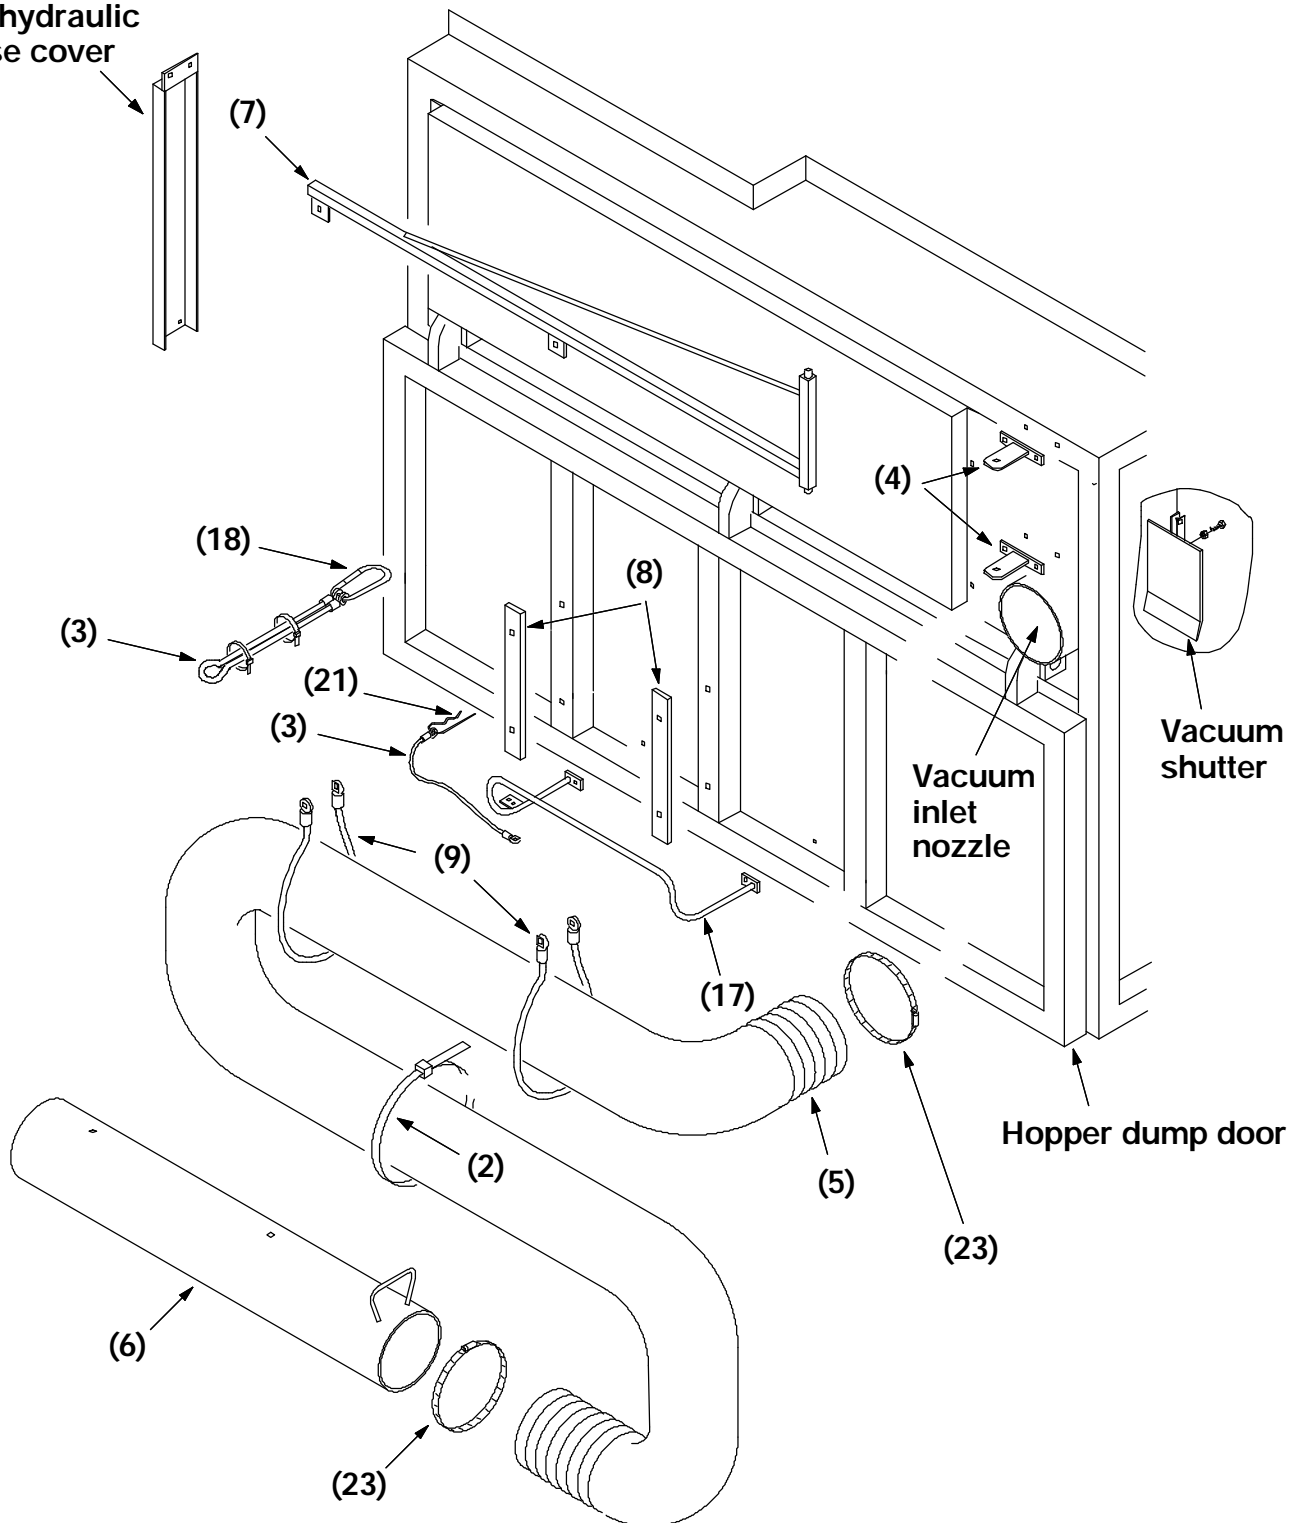

FIG. 4 - Vacuum Hose Assembly
(Refer to FIG. 4)
3. If the machine is equipped with the **water spray group**, remove the LH side frame cover and the LH hydraulic hose cover on the back of the hopper. (Refer to Fig. 4)
2. Reach in on the right hand side of the rear of the hopper and locate the vacuum shutter. This shutter was sealed up at the factory with RTV. Use a razor knife to cut the RTV away from the edge of the shutter. Make sure the shutter swings open smoothly. (Refer to Fig. 4)
5. Install the tube support (17) using two M8 hex screws (44) and nyloc nuts (43). Tighten to 18 - 24 Nm (15 - 20 ft lb). Place some RTV around the hardware on the inside of the hopper. (Refer to Fig. 4)
6. Using one of the nylon rub strips (8) as a template, hold the strip up and centered on the center vertical tube. Line the bottom edge of the nylon strip up with the top edge of the bottom tube. Mark both holes. Repeat this procedure on the vertical tube to the left of the center vertical tube. Drill these four holes at .196 (3/16) in. A #11 drill will also work. (Refer to Fig. 4)
8. Install one of the vacuum hose boom supports (4) to the lower set of tapped holes just above the vacuum tube inlet nozzle. Tighten the two M8 hex screws (50) to 18 - 24 Nm (15 - 20 ft lb). (Refer to Fig. 4)
9. Place the vacuum wand hose boom (7) on the support bracket (4) that was just installed. Install the second hose boom support (4) in the upper set of tapped holes. Tighten the two M8 hex screws (50) to 18 - 24 Nm (15 - 20 ft lb). (Refer to Fig. 4)
10. Place one end of the vacuum hose (5) on the vacuum inlet nozzle on the back of the hopper. Use the special ribbed hose clamp (23). Leave the clamp loose for now. (Refer to Fig. 4)
11. If the machine is equipped with the **water spray group**, the .50 in. nylon braided hose must be installed at this point. The longer 28 ft. water hose (32) is installed starting from the end of vacuum hose where it attaches to the metal hand held nozzle (6). From there it routes along with the vacuum hose (5) up to the area of the boom (7) where the attachment brackets (4) are bolted to the back of the hopper. From that point the water hose (27) continues along and is routed with the vacuum fan motor hydraulic hoses, down the side of the hopper, looped forward and attached to a straight plastic bulkhead fitting (29) in the area of the hydraulic bulkheads. The shorter 16 ft. piece (27) attaches to the other side of the plastic bulkhead (29) and is routed, along with a group of hydraulic hoses, down the side of the machine frame, to the front right corner of the machine cab. (Refer to Fig. 4 and 5)
13. Reinstall the LH side frame cover to the back of the hopper and the LH hydraulic hose cover to the right side of the machine frame. (Refer to Fig. 4)
14. Attach the vacuum hose (5) to the boom (7) using two vacuum wand cables (9), two M8 hex screws (44) and nyloc nuts (43). Rotate the hose so it flows neatly from the hopper, up the boom, and out to the end where the metal nozzle (6) will be installed. Tighten the two M8 hex screws to 18 - 24 Nm (15 - 20 ft lb). Also tighten the hose clamp (23) that was left loose in step 10. (Refer to Fig. 4)
15. If the machine is equipped with the **water spray group**, the vacuum water spray tube (28) needs to be installed on the metal hand held nozzle (6). Position the water spray tube (28) on the metal hand held nozzle (6) and mark the two mount holes. Drill two .281 (9/32) in. holes. Mount the spray tube (28) using two M6 hex screws (45) and nyloc nuts (42). Hand tighten. (Refer to Fig. 4 and 5)
16. Install the metal hand held nozzle (6) to the end of the vacuum hose (5). Use the special ribbed hose clamp (23). Hand tighten. (Refer to Fig. 4 and 5)
17. If the machine is equipped with the **water spray group**, make sure the water hose (27) is tied neatly along with the vacuum hose (5). (Refer to Fig. 4 and 5)
18. Using the compression fitting (33) provided in this kit, attach the water hose (27) to the spray tube (28) and ball valve (30) in the area where the vacuum hose (5) attaches to the metal hand held nozzle (6). (Refer to Fig. 4 and 5)
19. Install one of the shorter cables (3) and a hair pin (21) to the left side of the support tube bracket (17). (Refer to Fig. 4)
20. Install the other short cable (3) and chain snap hook (18) to the hopper door and around the hose boom (7). (Refer to Fig. 4)